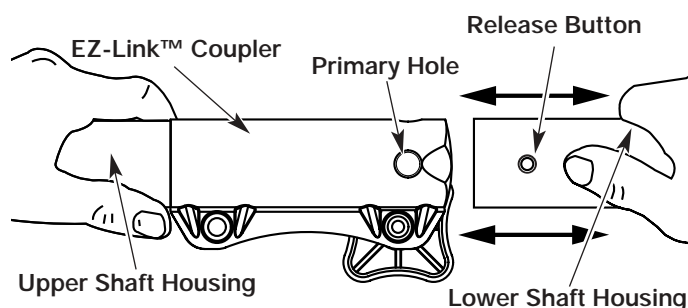

Fig. 7
3. While firmly holding the upper shaft housing, pull the cutting attachment or add-on straight out of the EZ-Link™ coupler (Fig. 7).
2. While firmly holding the add-on, push it straight into the EZ-Link™ coupler (Fig. 7).